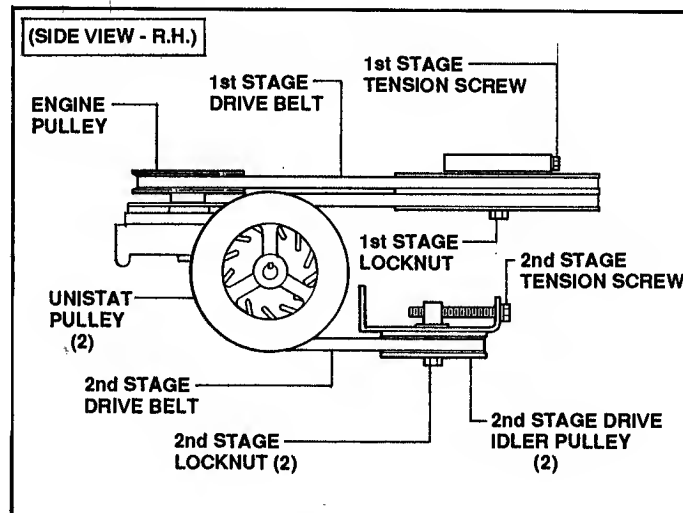

FIGURE 8.3
1. Loosen 1st and 2nd stage locknuts (3 places). See Figure 8.3.